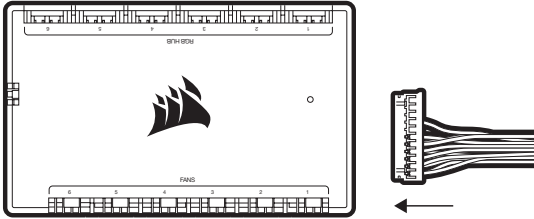

Figure 1
- > Connect pump 24-pin cable to your Commander CORE (Figure 1).